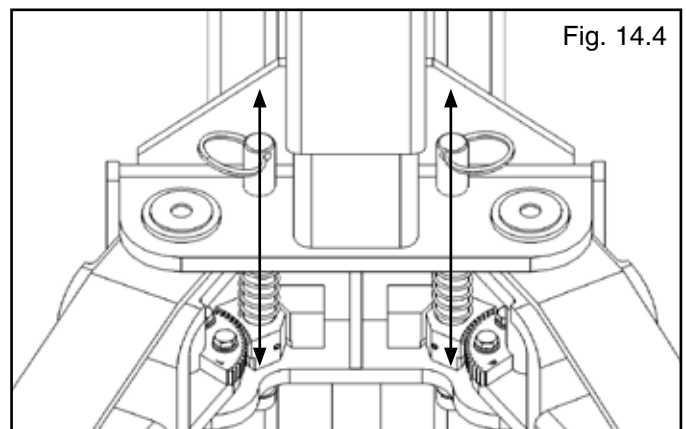

Fig. 14.4
5. Verify the operation of the arm restraints by pulling up on the key ring of the arm restraint pin. Pivot the arms back and forth and test the operation of the arm restraint pin in various positions. (See Fig. 14.4)